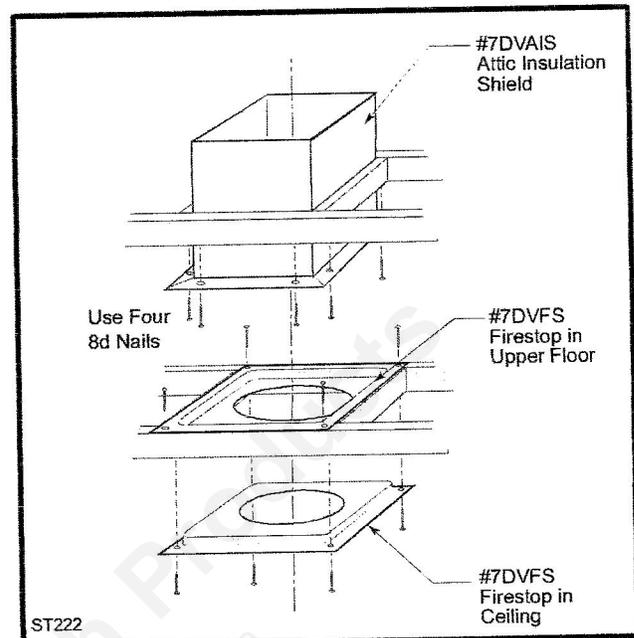

Fig. 37 Install firestops and attic insulation shield.
6. Install firestop(s) #7DVFS and Attic Insulation Shield #7DVAIS as needed. (Fig. 37) If there is a room above ceiling level, a firestop must be installed on both the bottom and top sides of the ceiling joists. If an attic is above ceiling level, an attic insulation shield must be installed.